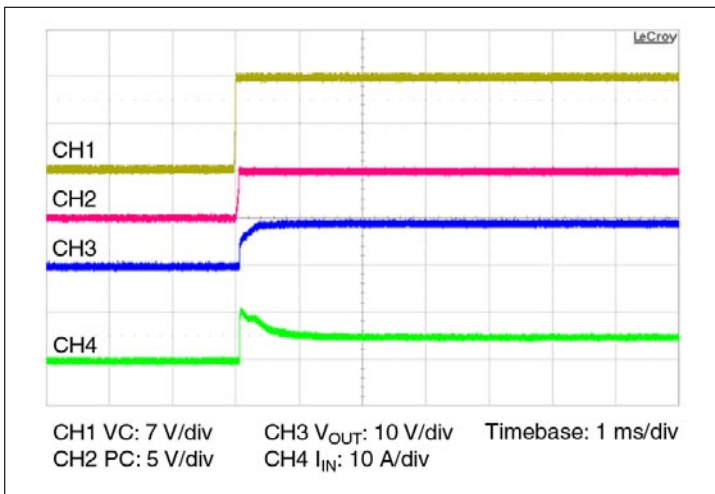

Figure 11 — Start up from application of VC;
- **Stand-alone operation (VC applied after V_{IN}):** In this case the VTM output will begin to rise upon the application of the VC voltage (See Figure 11). The Adaptive Soft Start Circuit (See Section 11) may vary the output rate of rise in order to limit the inrush current to its maximum level. When starting into high capacitance, or a short, the output current will be limited for a maximum of 1200 μ sec. After this period, the Adaptive Soft Start Circuit will time out and the VTM module may shut down. No restart will be attempted until VC is re-applied or PC is toggled. The maximum output capacitance is limited to 1600 μ F in this mode of operation to ensure a successful start.